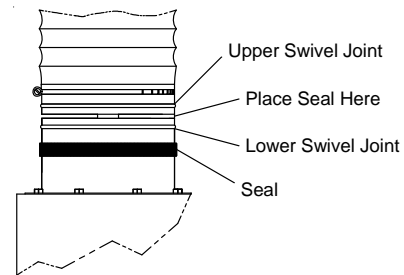

Fig. 2
3. Make sure that the seal is pulled up from the lower swivel joint to cover the gap between the lower and upper swivel joints (Fig. 2).